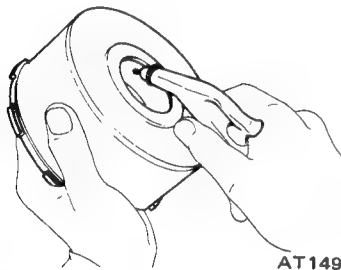

Fig. AT-81 Blowing out piston
4. Blow out piston by directing a jet of air into hole in clutch drum. See Figure AT-81.